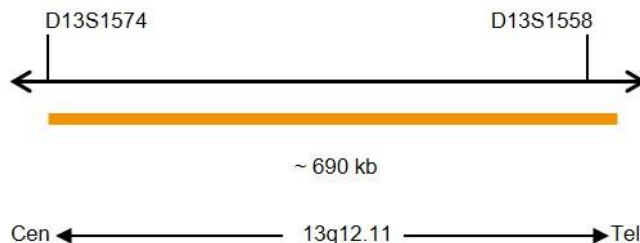

Fig. 1: SPEC 13q12 Probe map (not to scale)
- ZyOrange (excitation 547 nm/emission 572 nm) labeled polynucleotides (~4.5 ng/μl), which target sequences mapping in 13q12.11* (chr13:20,200,365-20,892,494) (see Fig. 1).